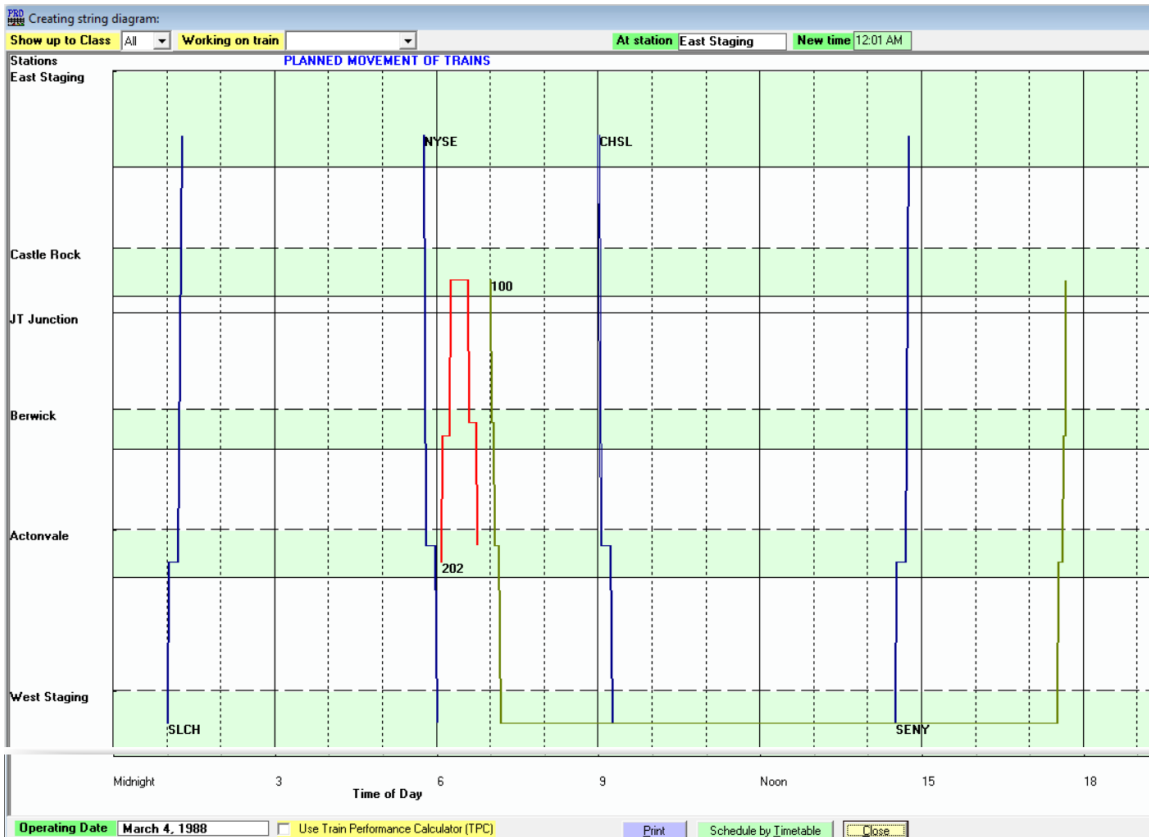

Figure 13-21
- 8. Now let's see how the train 100/101 schedule fits with our other trains. Click on the "Schedule directly on String diagram" button to display the string diagram. The result should look like Figure 13-21.